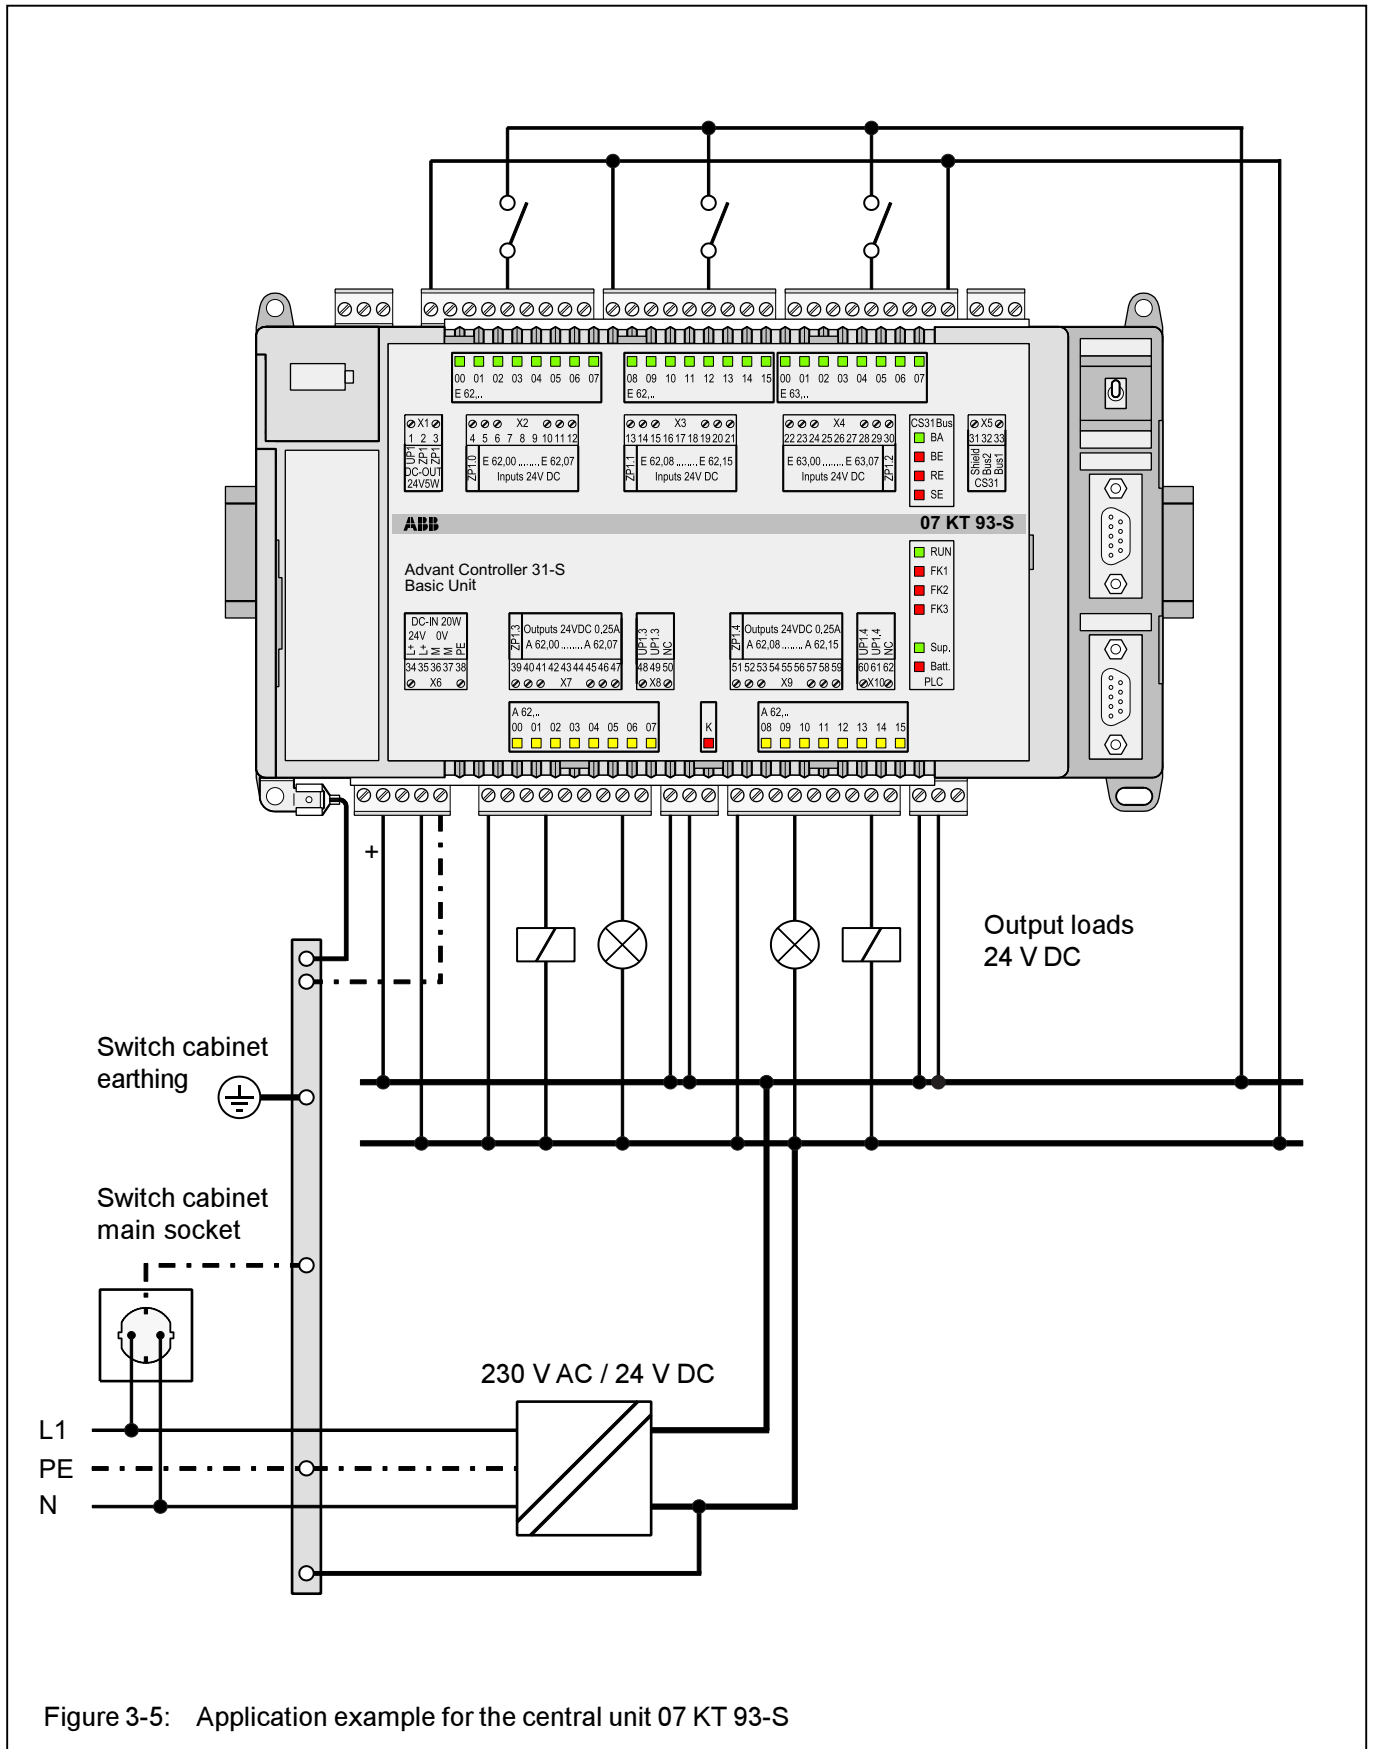

Figure 3-5: Application example for the central unit 07 KT 93-S
- The three groups E 62,00...E 62,07, E 62,08...E 62,15 and E 63,00...E 63,07 are electrical-ly isolated from each other (see Fig. 3-5).
- Each group as a whole is electrically isolated from the rest of the device (see also Fig. 3-5).